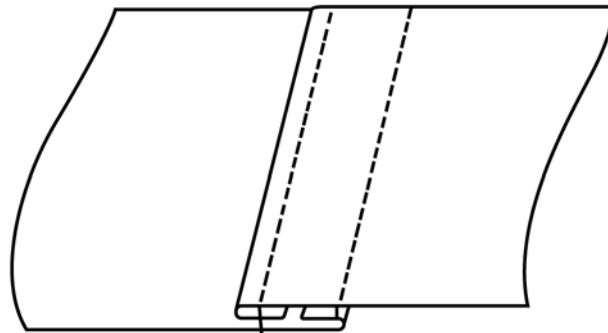

FIG. 5 Flat-Felled Seam from Face Side of Fabric
**flat-felled seam**, *n*—*in home sewing*, a complex seam formed on the outside of a product with cut edges enclosed and two rows of machine stitching visible from the face side. (See Fig. 5.)